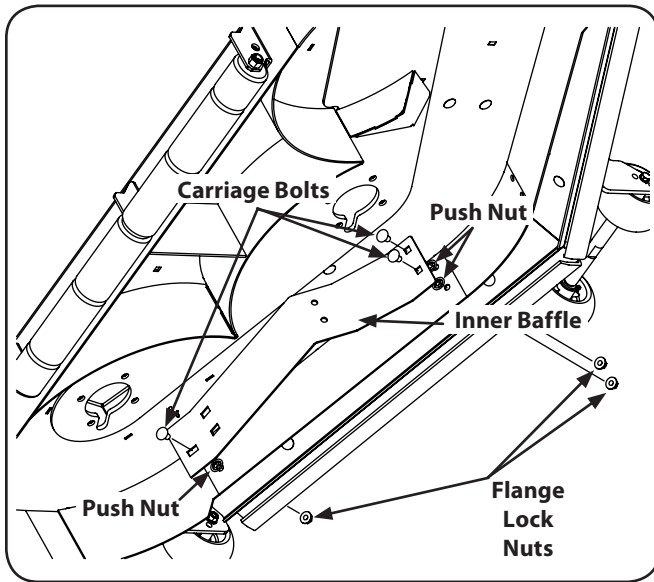

Figure 6-10
3. To properly sharpen the cutting blades, remove equal amounts of metal from both ends of the blades along the cutting edges, parallel to the trailing edge, at a 25°-30° angle. Always grind each cutting blade edge equally to maintain proper blade balance. See Figure 6-10.